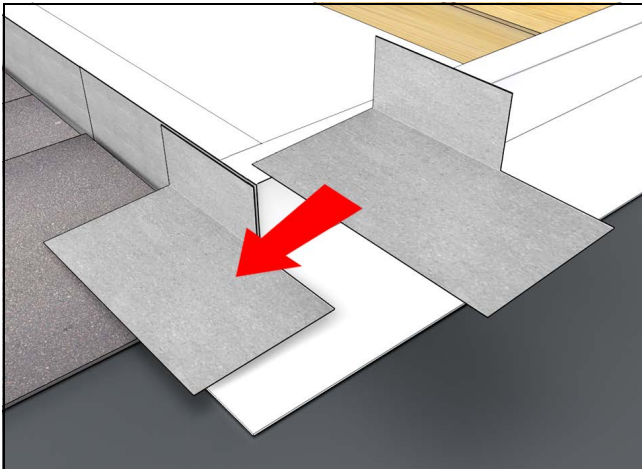

Figure 39
*Note: Vertical leg should be removed flush to head jamb. See Figure 39.*